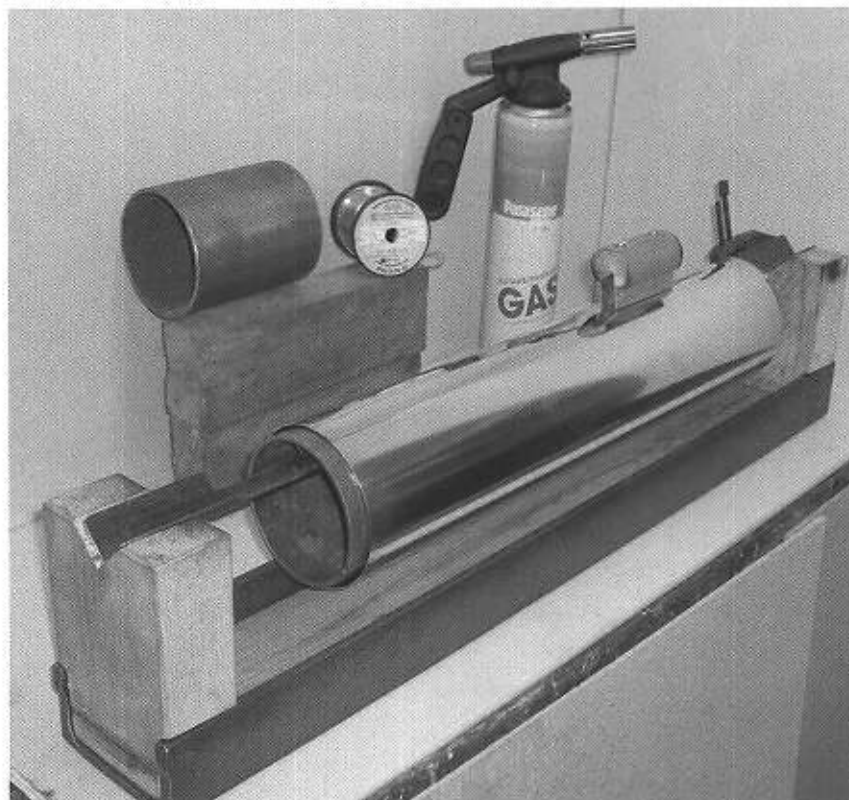

Fig 7A. Soldering jig
achieved by mounting the cylinder on a length of mild steel (MS) tubing of slightly smaller diameter. A length of folded aluminium foil under the seam prevents adhesion of solder to the MS tube. The arrangement and its use are shown by figs 7A, B and C. Solder to the following specification was used: